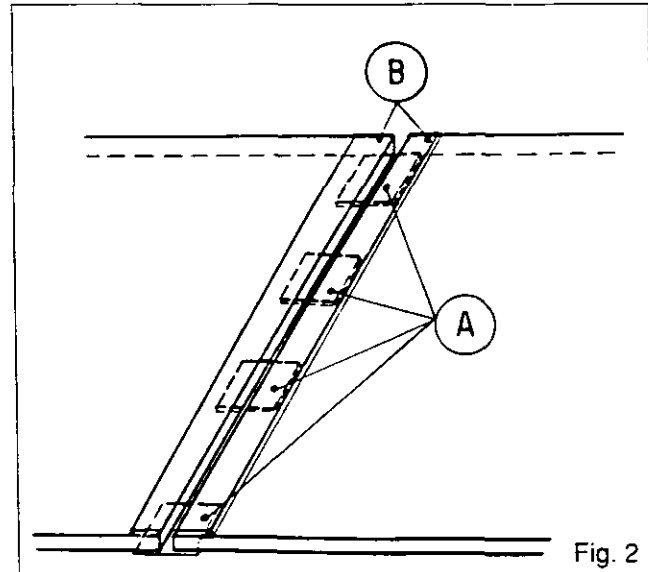

Fig. 2
- 5) Turn the glass over (the strips of tape will then be on the bottom) (Fig. 2).
- 6) Stick a strip of cellulose tape (B) on the edge of each window to protect the area adjacent to the joint.